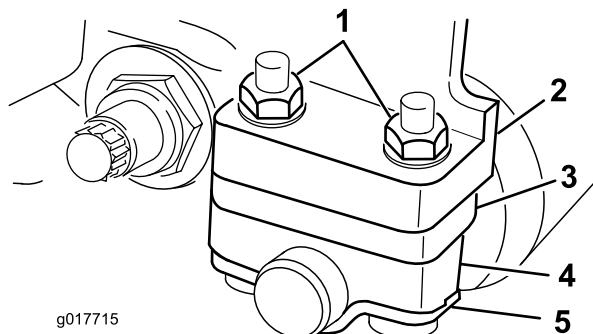

Figure 1
2. Remove the 2 nuts securing the roller retainer, roller, spacer, and shim to the left or right sideplate mounting flange (Figure 1). Remove the components.